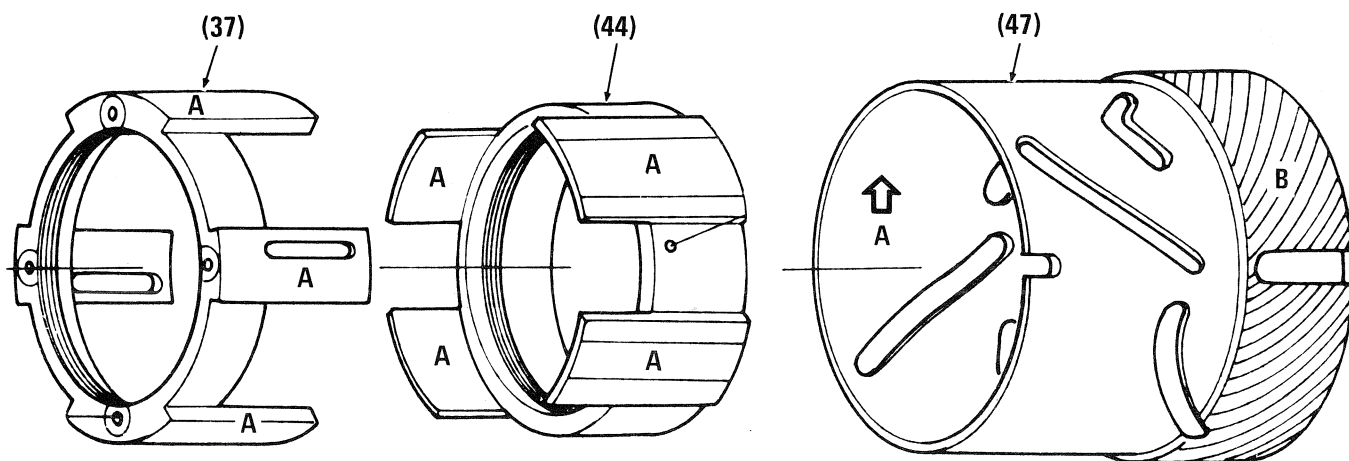
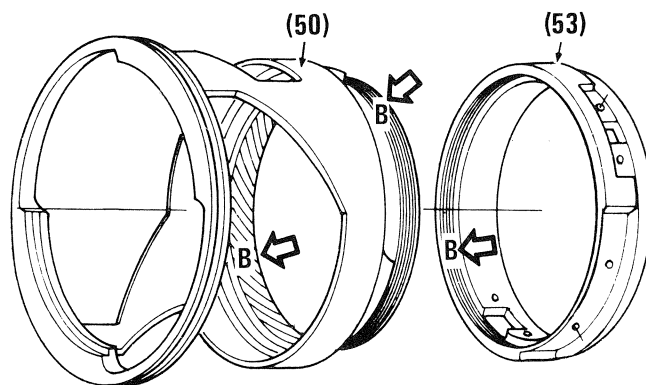

FIG. 4-17
FIG. 4-18
Lubrication is described below, however, the sequence of lubrication is given in the reassembly procedure and should be accomplished when specified. Refer to Fig. 4-17.
- Apply a thin film of lubricant "A" to the inside of inner helicoid (47).
- Apply a thin film of lubricant "A" to the bearing surfaces of slide housings (37) and (44).
- Apply a thin film of lubricant "B" to threads of inner helicoid (47) (Fig. 4-17)) and middle helicoid (50). Fig. 4-18.
- Apply a thin film of lubricant "B" to the threads of outer helicoid (53) and to the mating threads on middle helicoid. Assemble, rotate back and forth to spread lubricant evenly. Separate the helicoids and remove excess lubricant. Fig. 4-18.